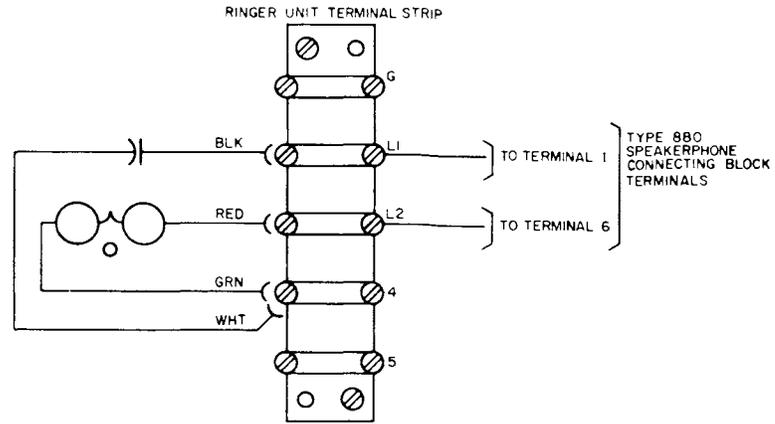

Figure 3. Type 33 Ringer Unit Wired for Bridged Ringing.
4.05 Type 33 ringer unit. When the Type 880 Speakerphone is supplied without the signal circuit board, a Type 33 ringer unit may be used for ringing. The Type 33 ringer unit must be ordered separately. The ringer unit may be connected to the Speakerphone connecting block as shown in Figures 3, 4, or 5; these figures also show the connections (in the ringer unit) to be made for the various types of ringing.